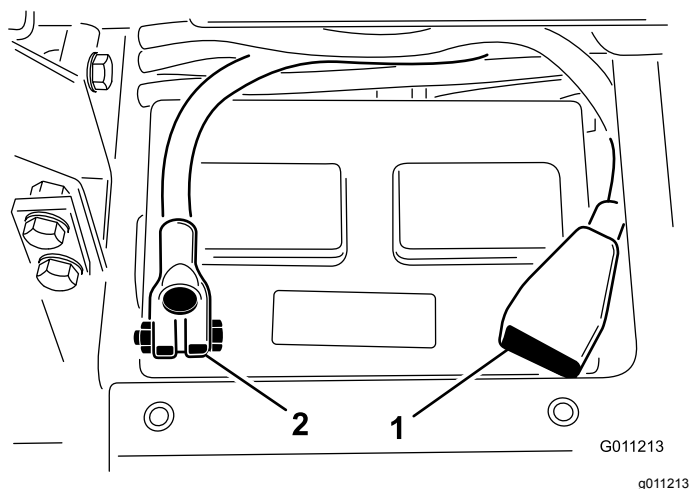

Figure 5
- Install the positive cable (red) to the positive (+) terminal and the negative cable (black) to the negative (–) terminal of the battery and secure them with bolts and nuts (Figure 5). Make sure that the positive (+) terminal is all of the way onto the post and the cable is positioned snug to the battery. The cable must not contact the battery cover.